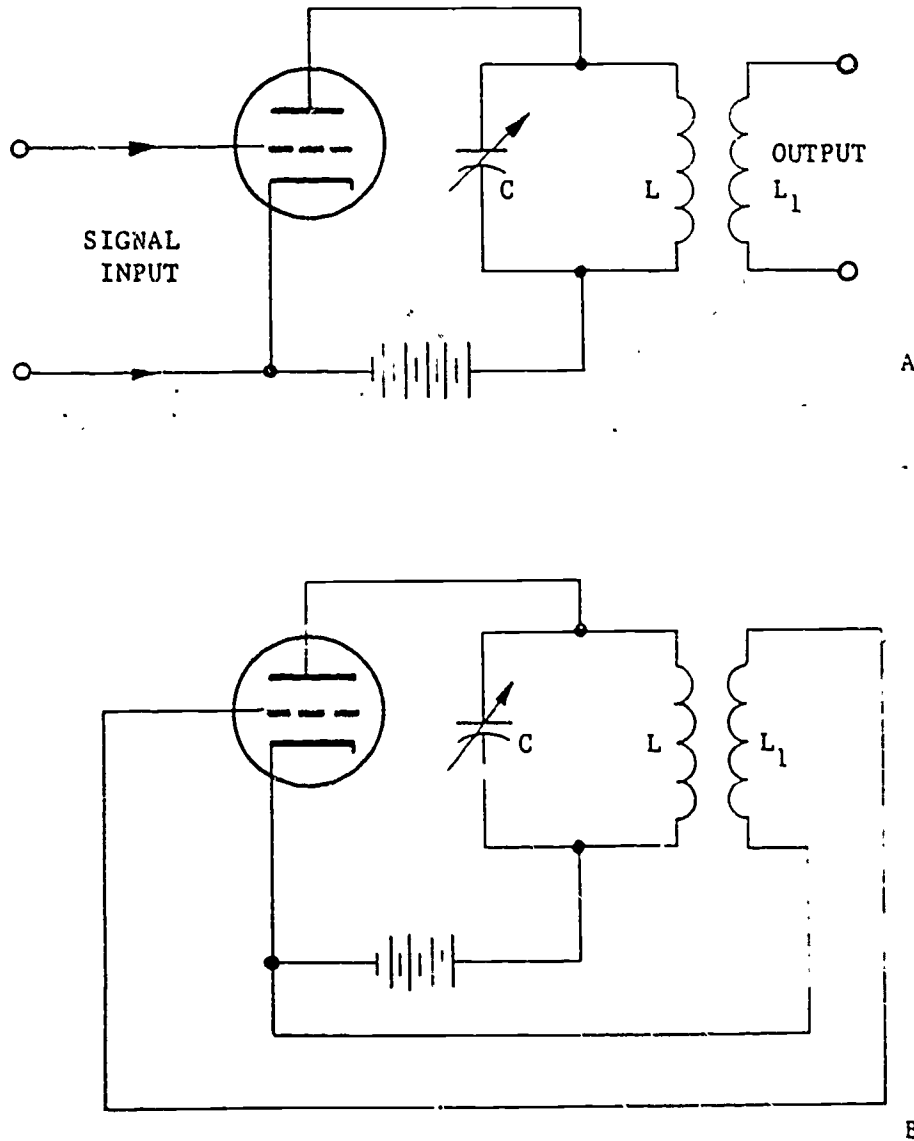

Figure 1-12. Development of an RF oscillator circuit.
f. Oscillators. Assume that an amplifier is designed to amplify a given frequency, or band of frequencies, as shown in A of figure 1-12. If the output signal is fed back to the input circuit, in phase with the input signal (B of fig. 1-12), the amplifier will oscillate as long as the in-phase feedback continues. In this circuit, the oscillating frequency is determined by the values